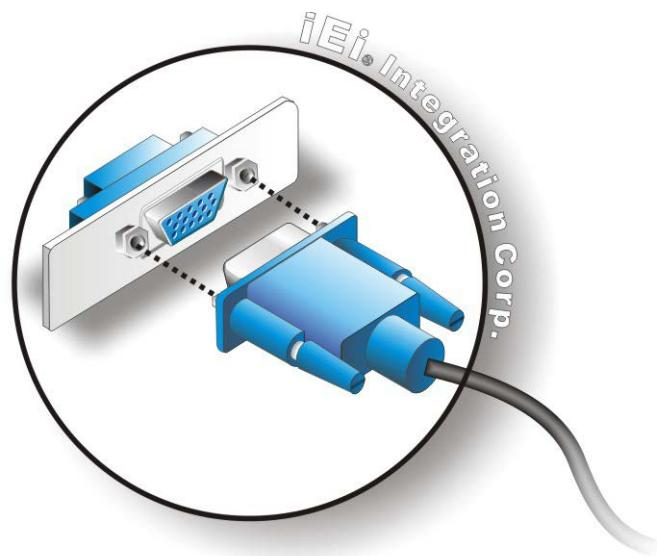

Figure 3-14: VGA Connector
Step 3: Insert the VGA connector Once the connectors are properly aligned with, insert the male connector from the VGA screen into the female connector on the TANK-620-ULT3. See **Figure 3-14**.